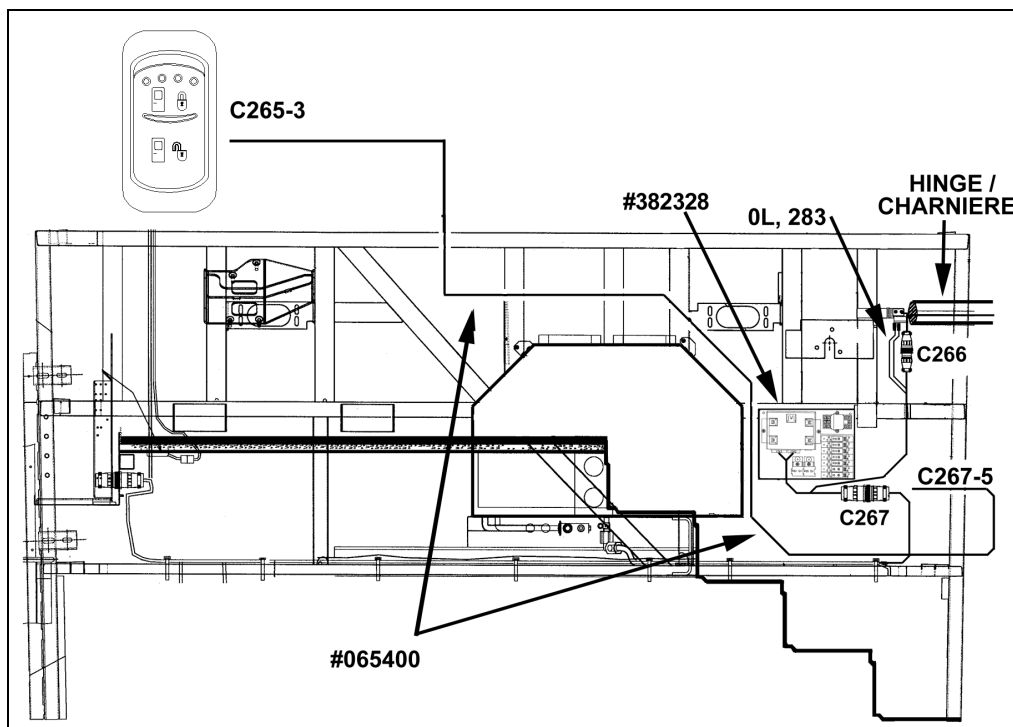

FIGURE 1: LOCATION OF KEYLESS ENTRY MODULE ON FRONT STRUCTURE VIP
2. Unplug all connectors and remove the existing module (figure 1).
3. Install new module #382328 (drilling of holes may be required on the frame). Plug connectors C266 and C267 as per figure 1.
4. Connect wires 0L and 283 to the limit switch near the door top hinge (figure 1 et 2).
5. Insert extremity labeled C267-5 of harness #065400 into port 5 of connector C267 as per figure 1.